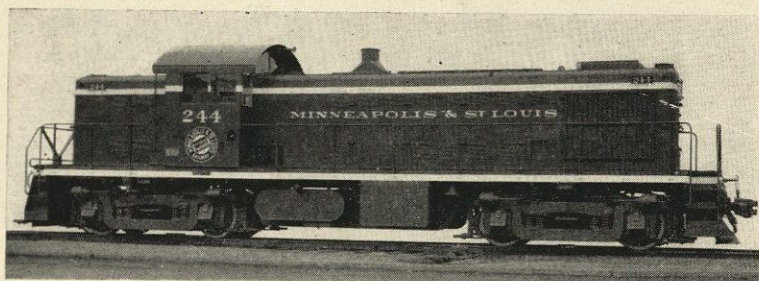
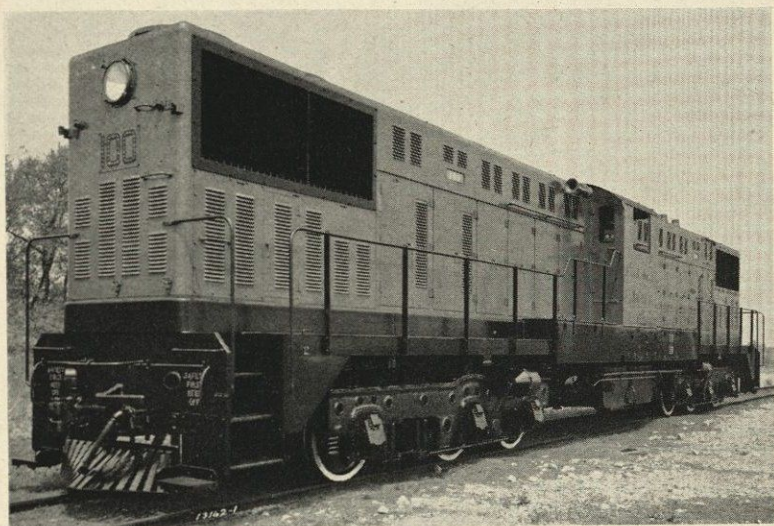

Fig. 1
Fig. 6
3. A Diesel locomotive, such as the single-unit switching locomotive shown in Fig. 1, consists of a framework supported by trucks which contain the driving wheels. The locomotive is driven by electric motors. There is a separate motor for each driving axle. The motors are mounted on the trucks. Each motor is connected with its driving axle by gears. The propulsion is similar to that of an electric streetcar.
power. The four-unit freight locomotive illustrated is rated at 5400 horsepower. Heavy single-unit switching locomotives, such as the one shown in Fig. 1, usually are rated at 1000 horsepower and weigh about 125 tons. Smaller sizes run from 600 horsepower down to industrial switchers of 360 horsepower or less. Fig. 6 shows a single-unit transfer locomotive of 2000 rated horsepower